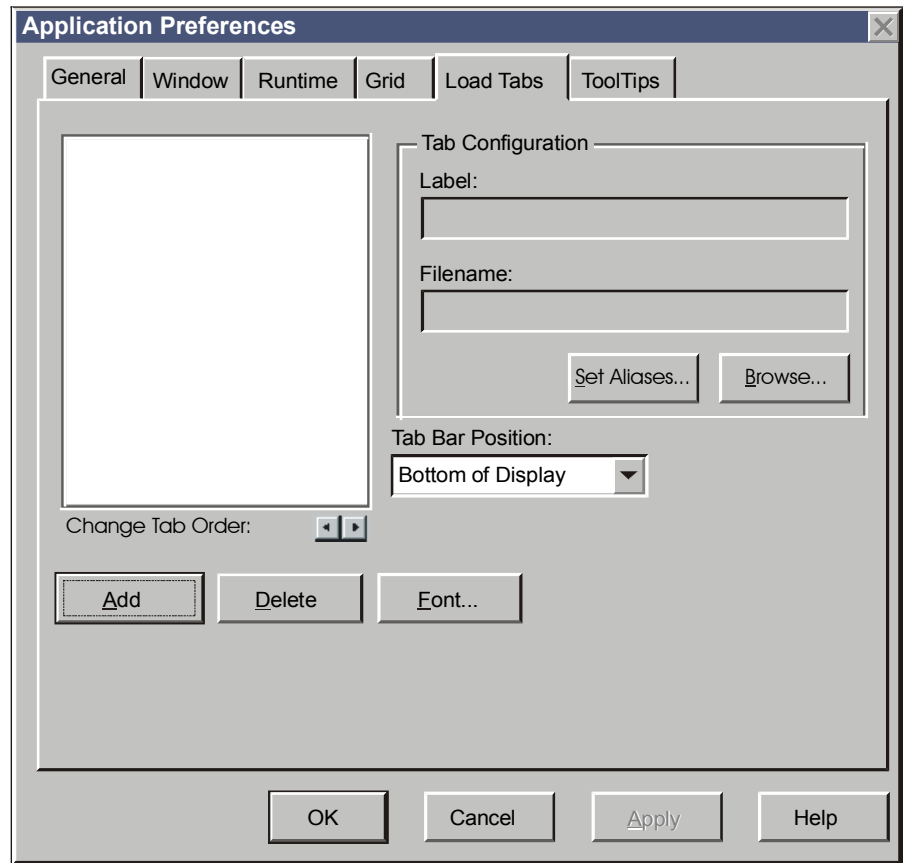

Figure 4-9: Display Properties: Load Tabs Tab
2. Select the Load Tabs tab (Figure 4-9).